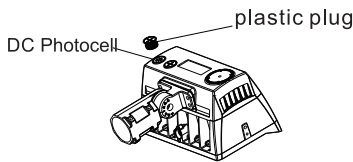

Fig. 9
1.) If photocell function is required, remove the clear KO cover on the back of the luminaire. Adjust the switch on/off depending on the installer's preference. Put the plastic cover back in place to ensure water does not leak into the fixture (Fig. 9).